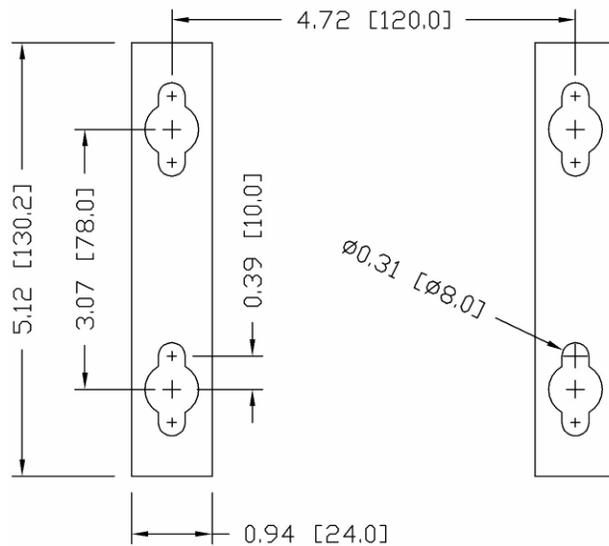

Figure A-22: Mounting Hole Pattern
- 4. Mark the position of the mounting holes on the vertical surface per the dimensions shown in Figure A-22.